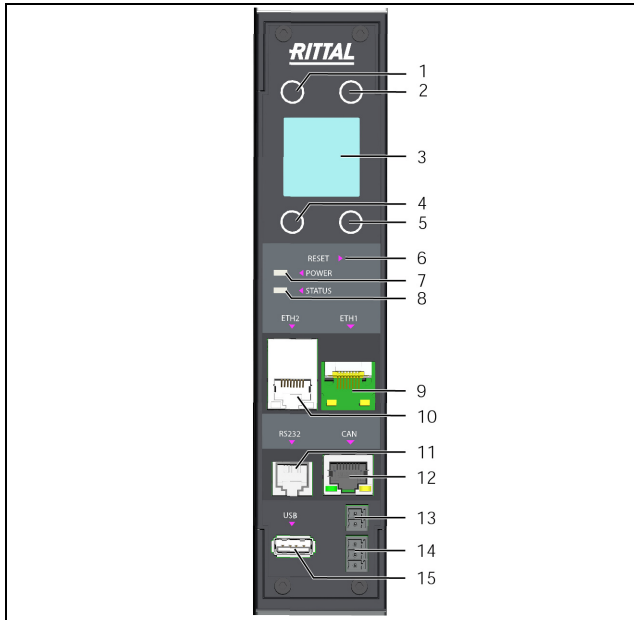

Fig. 16: Control and display elements and connections of the PDU metered/metered plus/switched/managed/RCM
After connecting the PDU to the power supply, the green power LED (fig. 16, item 7) will be illuminated, and the PDU will start to boot automatically.
If connected to a network, the Link and Status LEDs on the RJ 45 jack will be illuminated (fig. 16, item 9 and item 10).
After a few seconds, the multi-LED for status display will start to flash blue, indicating that booting is in progress (fig. 16, item 8).